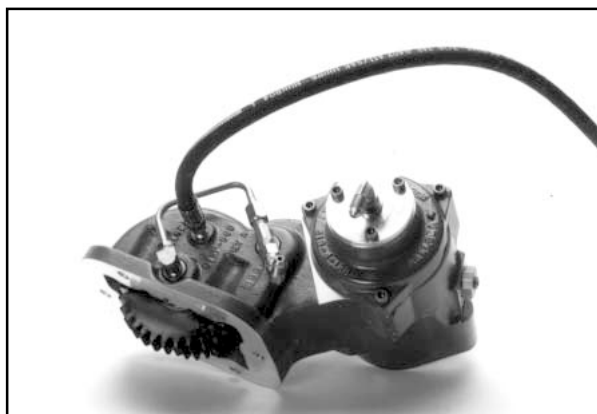

Figure 3
3. Hose 329087X is approximately 35" long from end of fitting to end of fitting. Install the rigid .125"-27 NPTF end into the port on the side of the P.T.O. housing as shown in **Figure 3**. On page 11 of this manual is a sketch of all the hose assemblies used for this installation. This will assist you in identifying which hose assemblies are used in the installation process.